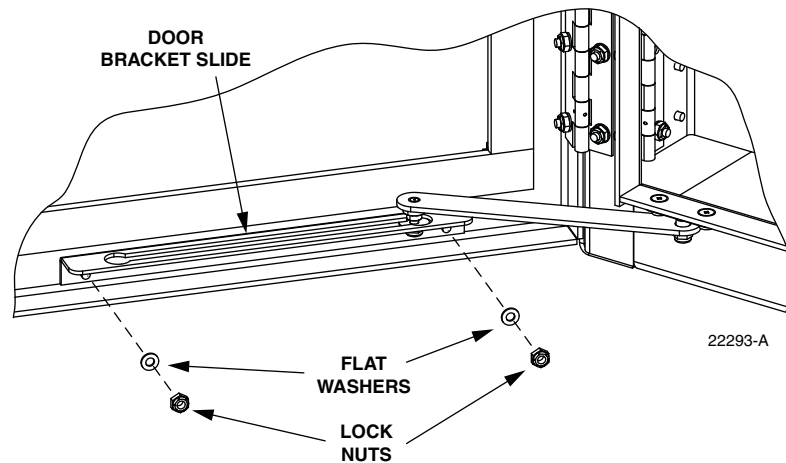

Figure 29. Door Linkage Hardware
2. Use a 3/8-inch nut driver to remove the locking nuts and washers that secure the door bracket slide to the bottom edge of the damaged door as shown in Figure 29. Save the nuts and washers for reuse.